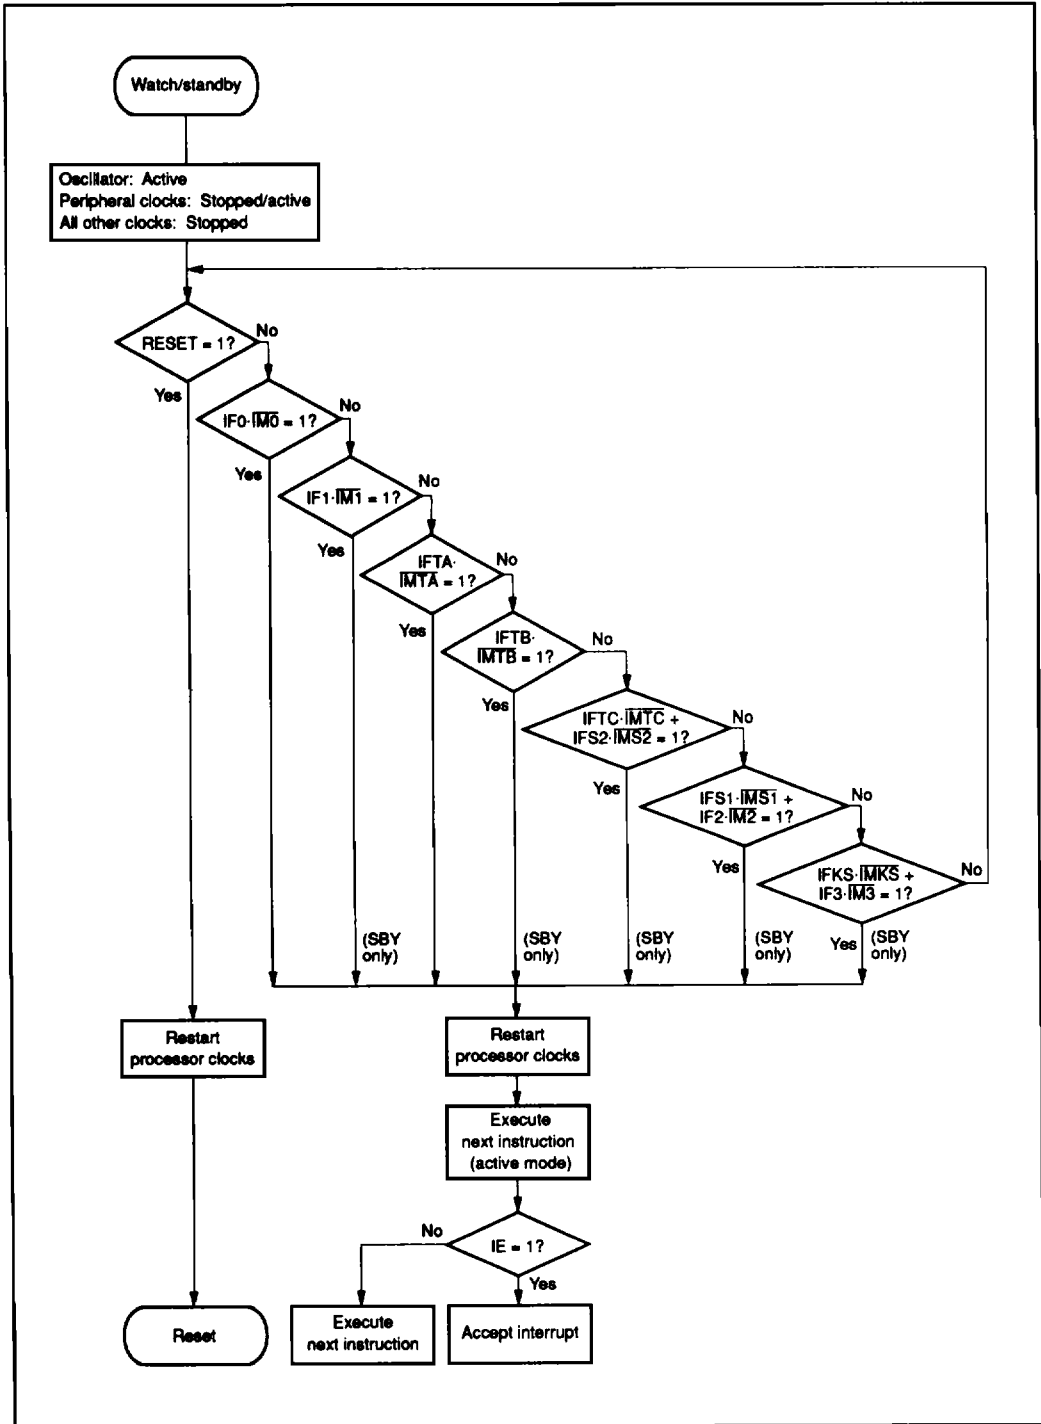
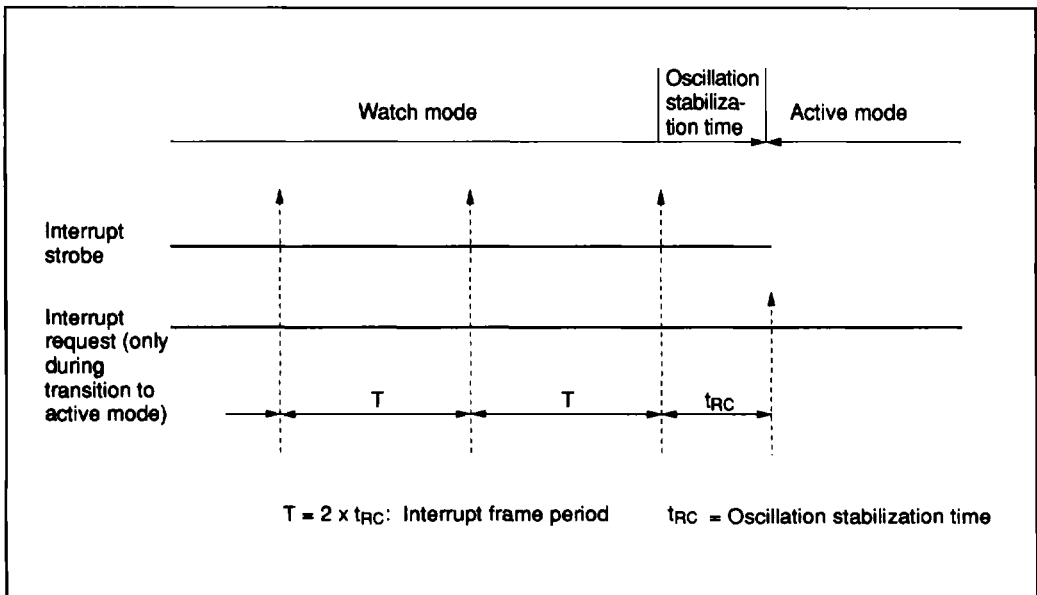

Figure 15 Flowchart of Watch and Standby Modes
Figure 17 Interrupt Frame
Standby mode may be cancelled by inputting RESET or by asserting an interrupt request. In the former case the MCU is reset. In the latter case, the MCU becomes active and executes the next instruction following the SBY instruction. If the interrupt enable flag is 1 when an interrupt request is asserted, the interrupt is executed, while if it is 0, the interrupt request is put on hold and normal instruction execution continues. A flowchart of operation in standby mode is shown in figure 15.
The watch mode is terminated by a RESET input or a timer-A/ $\overline{INT}_0$  interrupt request. For details of RESET input, refer to the Stop Mode section. When terminated by a timer-A/ $\overline{INT}_0$  interrupt request, the MCU enters active mode if LSON is 0 or subactive mode if LSON is 1. Any interrupt request generated for the transition to active mode is delayed for half the interrupt frame period ( $t_{RC}$ ) to give the oscillation time to stabilize (figure 17). Operation during mode transition is the same as that at standby mode cancellation (figure 15).
**Interrupt Frame:** In watch and subactive modes,  $\Phi_{CLK}$  is supplied for timer A and the  $\overline{INT}_0$  circuit. Prescaler W and timer A operate as time bases to generate interrupt frame timing. Three interrupt frame cycles (T) can be selected by the settings of miscellaneous register 1, as shown in figures 17 and 18.